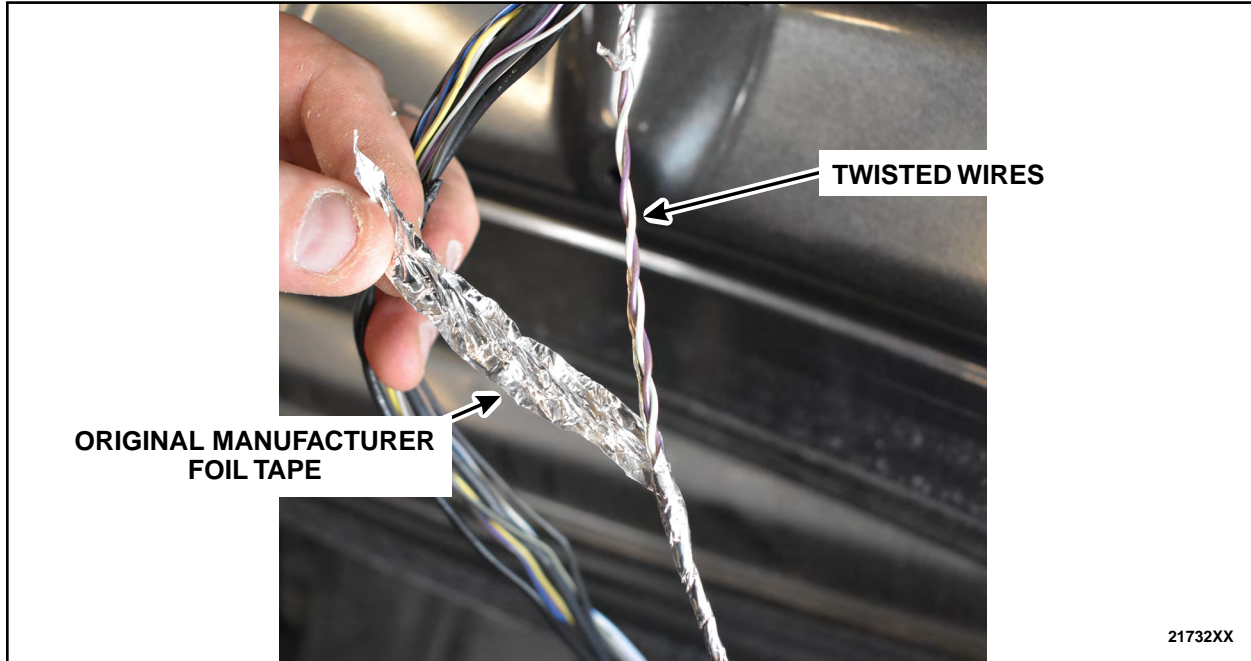

FIGURE 42
61. Wrap the full length of the exposed twisted wires using the original manufacturer foil tape while making sure to properly overlap the wires and have enough tape length. See Figure 42.